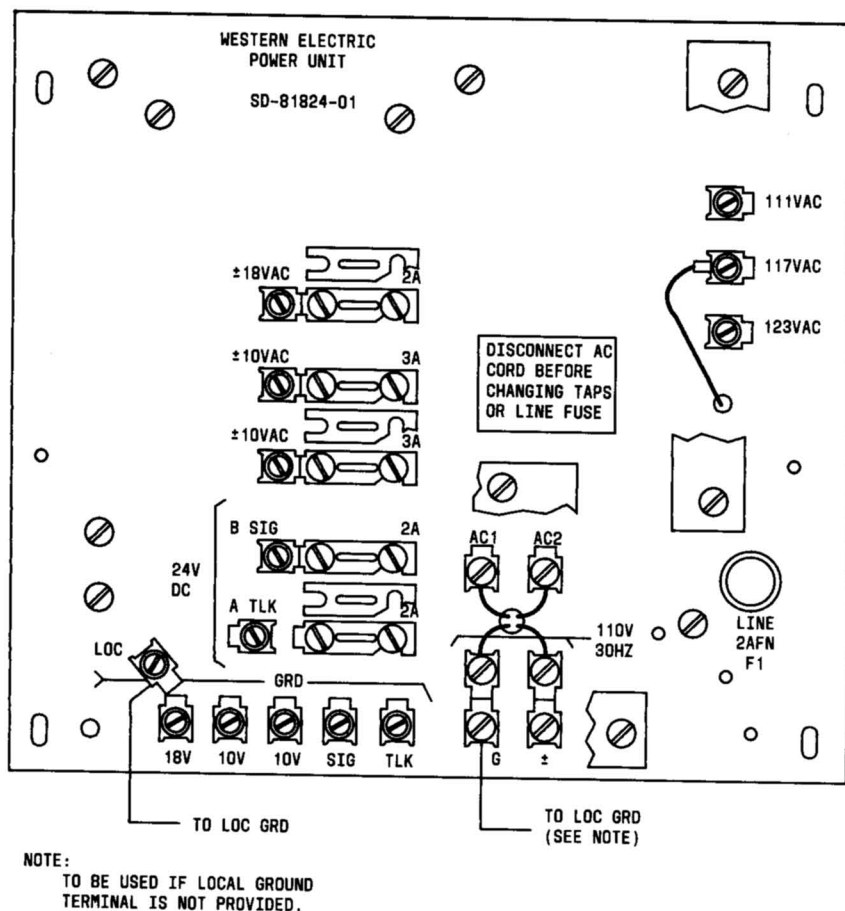

Fig. 5—Wiring Connection for 20A2 Power Unit
### **4. CONNECTIONS (Fig. 5)**
- 4.05** Connect LOC GRD as shown in Fig. 5.
the station ground wiring leads should be connected to their **designated** ground terminals (Fig. 5).